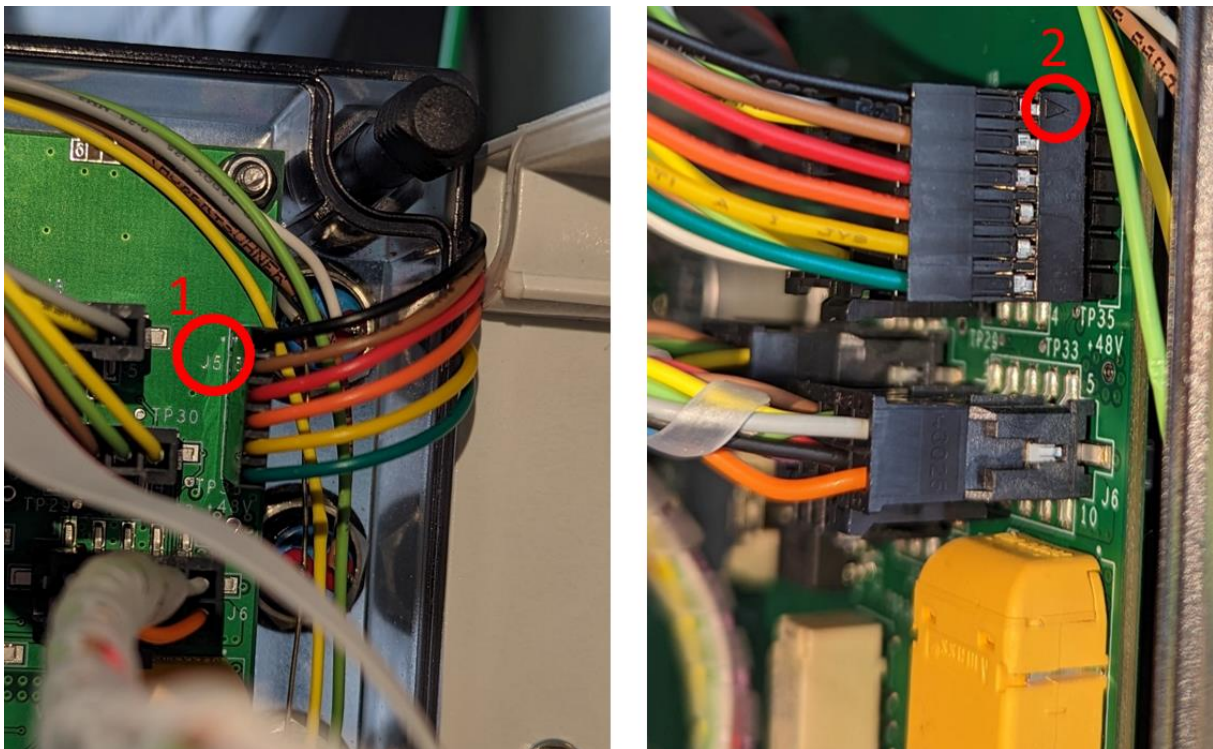

Figure 38: Connector J5 on the main electronic board and the “rainbow” cable from the compiler module to perform a firmware update.
- Connect the “rainbow” cable from the compiler module, as shown in Figure 38, to the main electronic board (plug J5). The pin, which is indicated with a small arrow on the black plug (2) from the rainbow cable, must be connected to the pin that is marked with a small white spot (1)